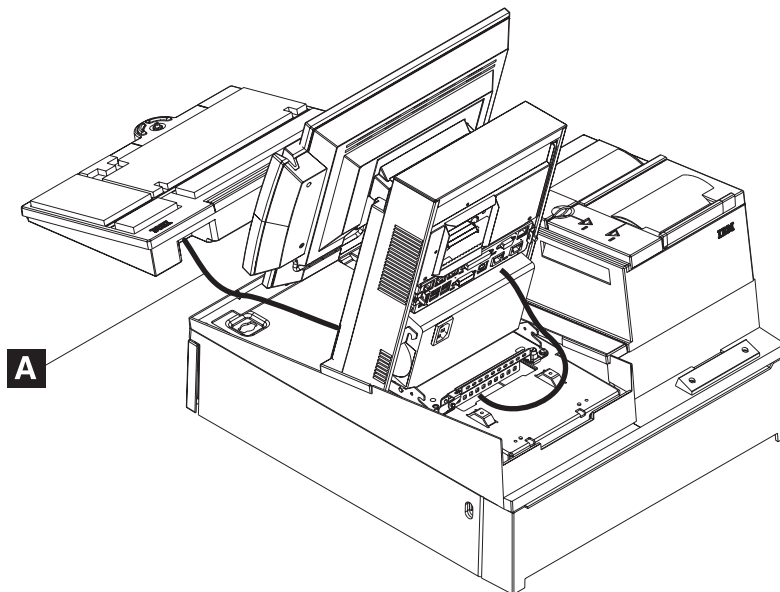

Figure 58. Installing the keyboard onto the integration tray
12. To install the keyboard, perform the following steps. See Figure 58 for callout locations: